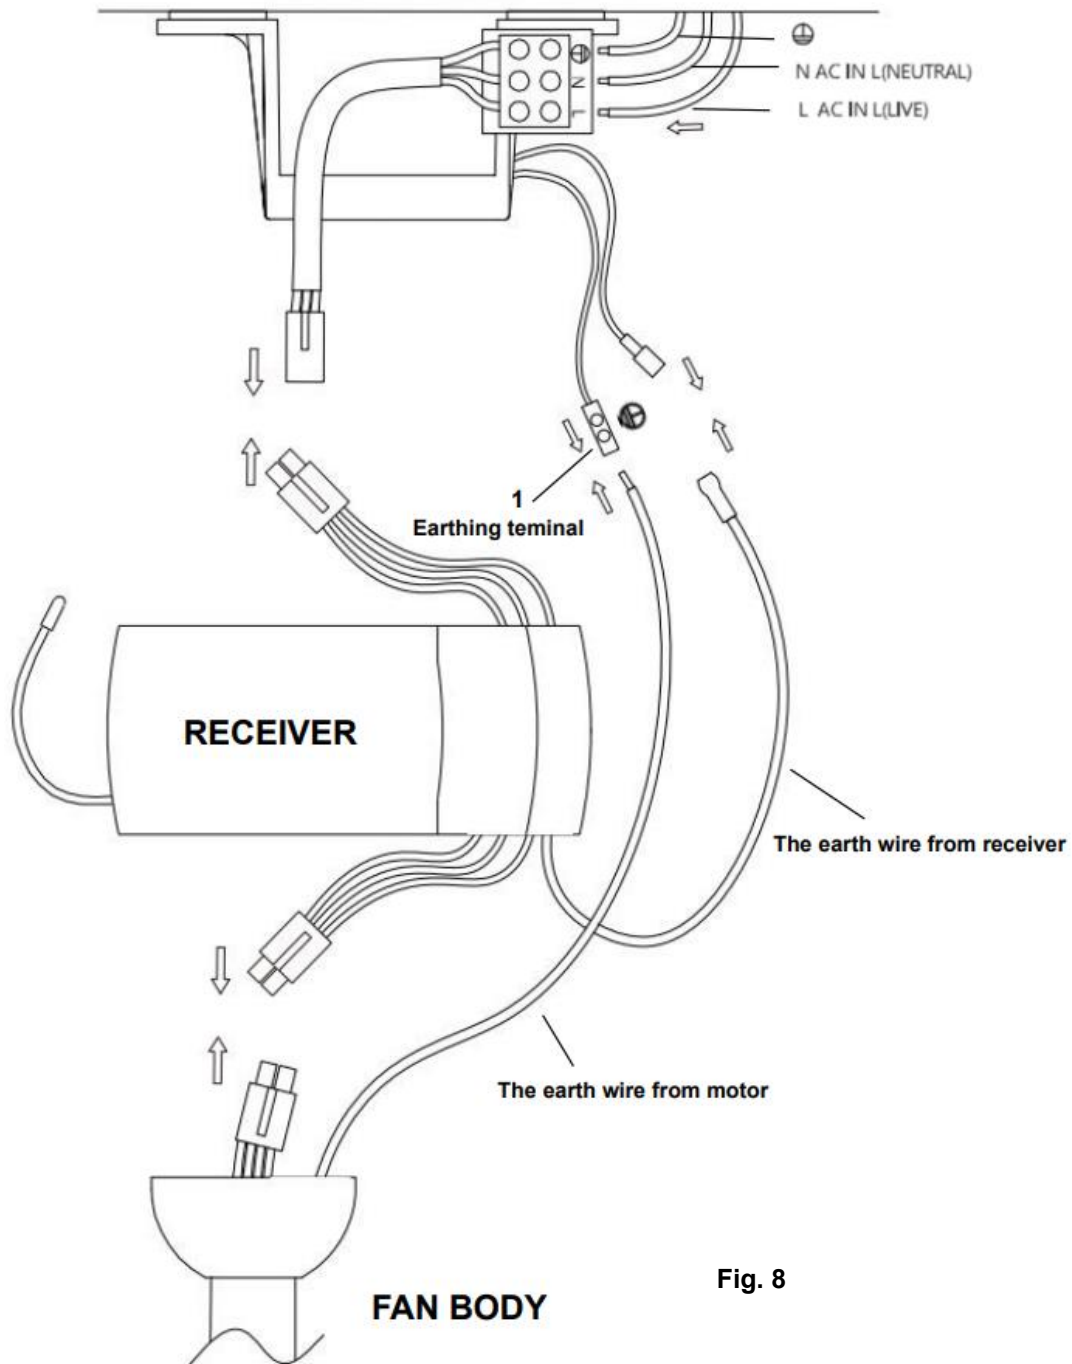

Fig. 8
Ensure the motor earth wire is connected to the single earthing terminal block “1” in Fig.8
From mains supply to mounting bracket terminal block: (Fig.8)
From mounting bracket to receiver and motor: (Fig.8)
- Connect the motor earth wire to the single earthing terminal block “1” in the diagram below. (Fig.8)